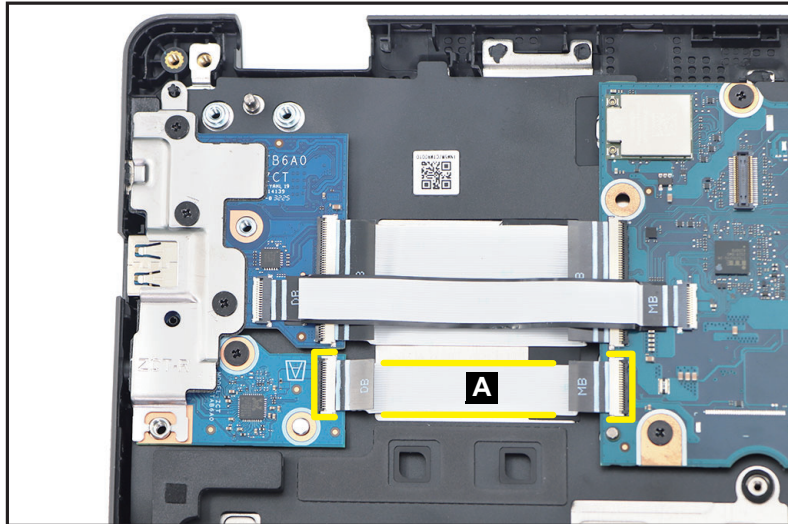

Figure 1-38. Audio Board Removal
1. Disconnect the audio board FFC (A) from the audio board and mainboard connectors. Then carefully detach the audio board FFC from its underneath adhesive (highlighted with the yellow lines) (Figure 1-38). Remove the audio board FFC.